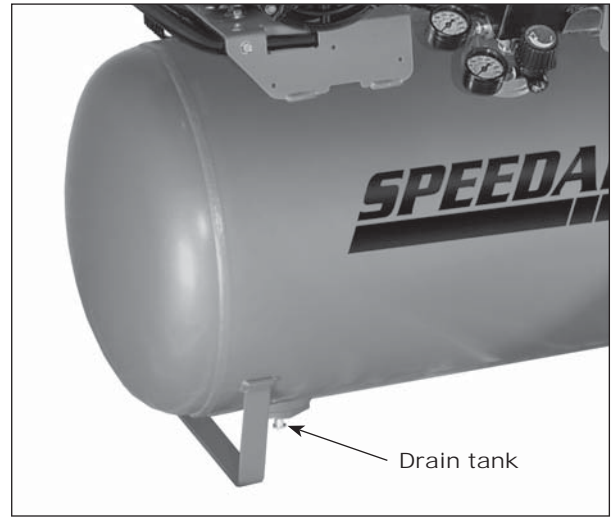

Figure 6
2. Open the bottom tank drain valve (see Figure 6). Turn outlet valve to open air flow.
Drain Tank (see Figure 6)	●